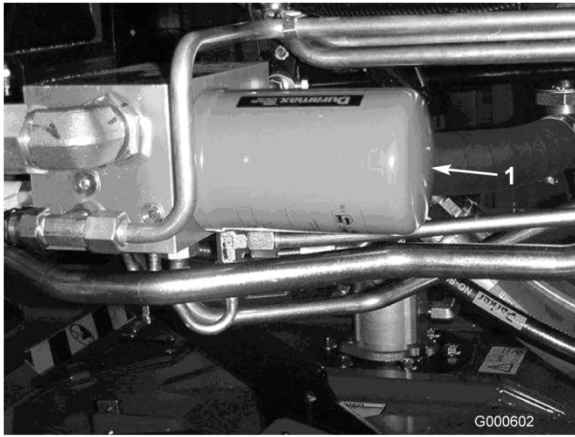

Figure 55
2. Clean the area around the filter mounting area. Place a drain pan under the filter and remove the filter (Figure 54 and Figure 55).